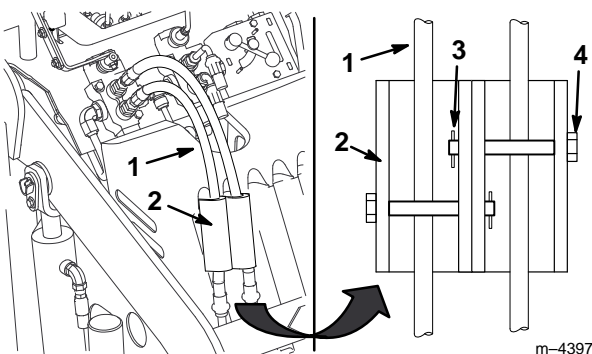

Figure 16
7. Install the cylinder locks over the hydraulic hoses and secure them with the clevis pins and cotter pins (Fig. 16).